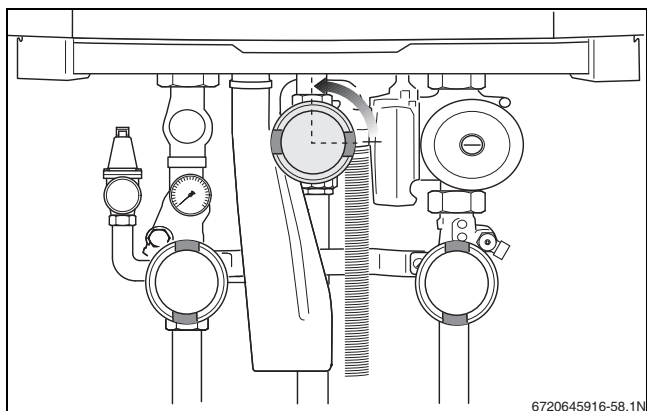

Fig. 61 Opening the gas valve
- ▶ Slowly open the gas valve by pushing on the gas valve and turning it counterclockwise through ¼ rotation (→ fig. 61). The gas valve is open when it is in the vertical position.
- ▶ Slowly open the gas valve by pushing on the gas valve and turning it ¼ rotation in an counterclockwise direction (→ fig. 61, page 36). The gas valve is open when it is in the vertical position.
- ▶ Slowly open the gas valve by pushing on the gas valve and turning it ¼ rotation in an counterclockwise direction (→ fig. 61).